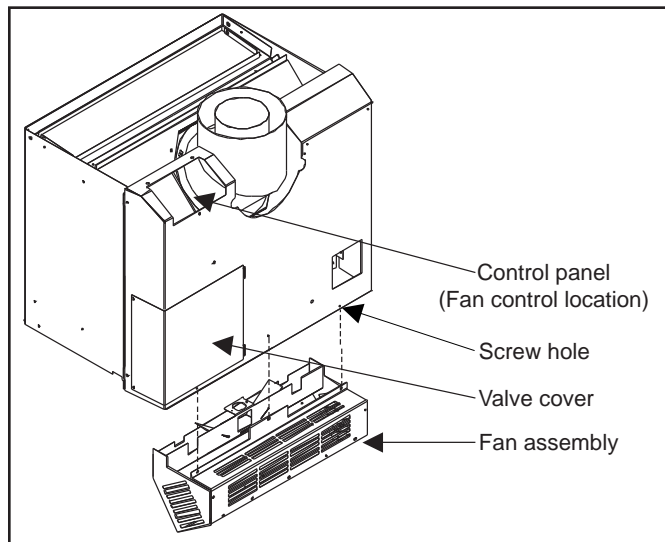

Figure 51: Optional Blower (Fan) Installation.
3. Open the gas valve cover. Carefully cut the decal portion on the control panel and install the fan control switch in this location. See Figure 51 for wiring of optional blower.